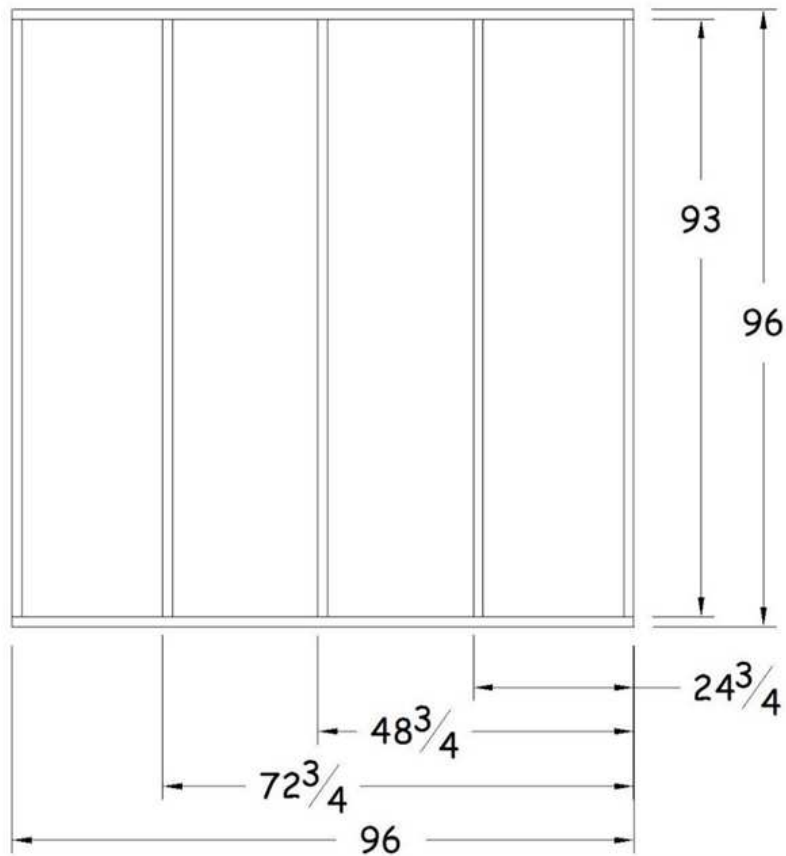

Figure 22-1. Floor Framing.
3. Assemble the floor section as shown in Figure 22-1. Screw through the end plates into the end of each floor joist using two 2½" exterior screws in each joist.